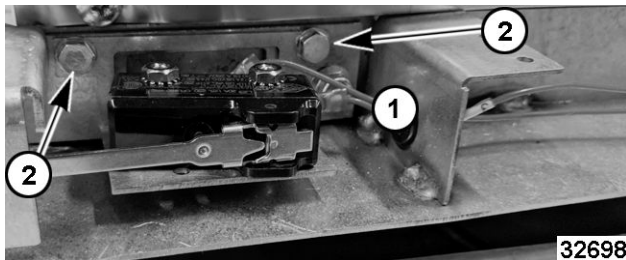

Fig. 32
2. Disconnect leads (1, Fig. 32) to door switch.
3. Remove door switch bracket mounting screws (2, Fig. 32).